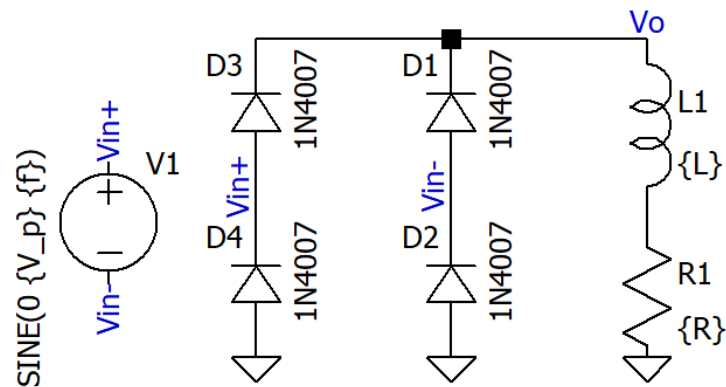

Figure 4.3 FWR with inductive load
1. Connect the Circuit as shown in Figure 4.3.